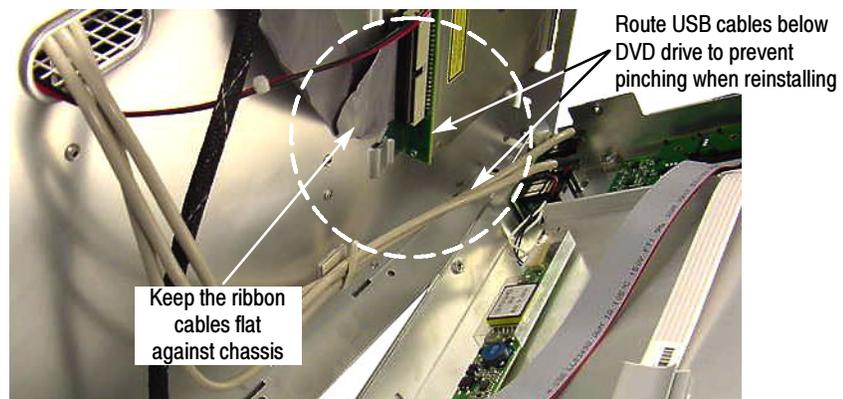

Figure 5: Dress the cables properly
- To avoid damaging the USB and DVD cables, dress the cables properly just before you attach the new panel to the chassis. See Figure 5.